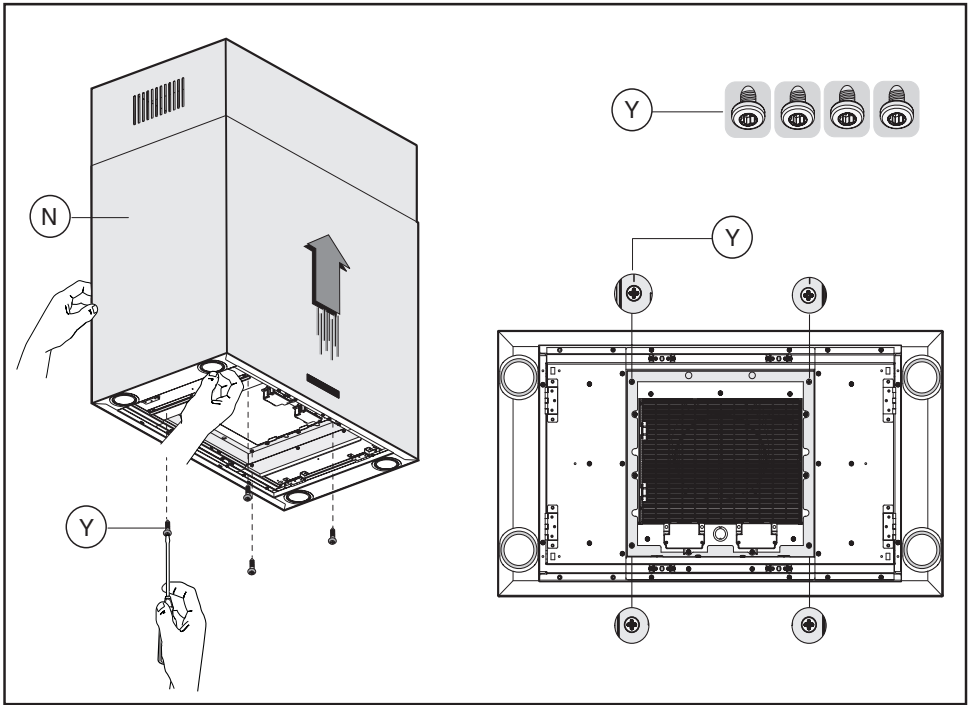

Fig.15
- Take the locking device **N** and join it to the upper duct, then fix it in place using the 4 screws **Y** (Fig. 15).